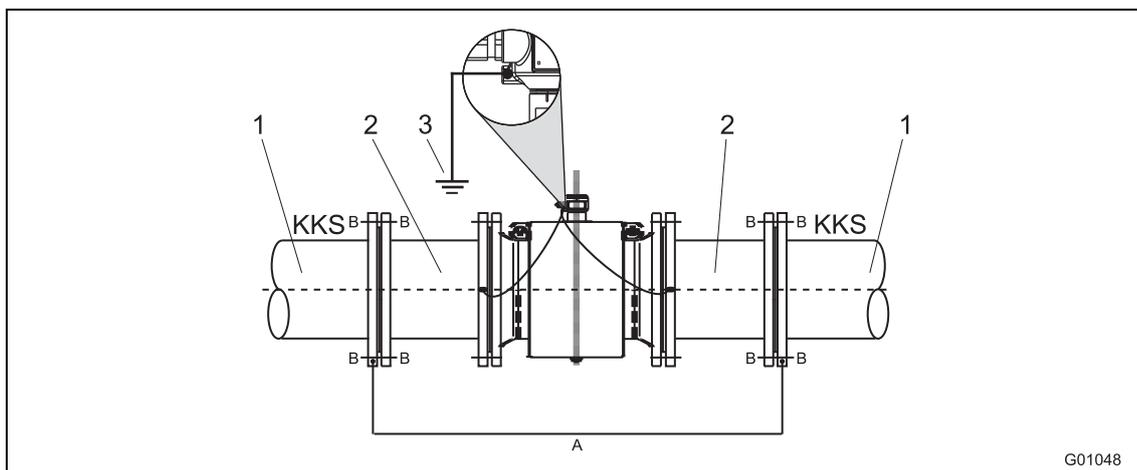

Fig. 32: Flowmeter sensor with functional ground
- If the occurrence of external stray currents is to be expected in pipelines with internal insulation (e.g. in the case of long pipe sections in the vicinity of power supply units), an uninsulated pipe of approx. 1/4 DN of length should be provided upstream and downstream of the flowmeter sensor in order to deviate these currents away from the measuring system (Fig. 32).
The Fig. 32 shows the preferred installation for cathodic corrosion protection systems.